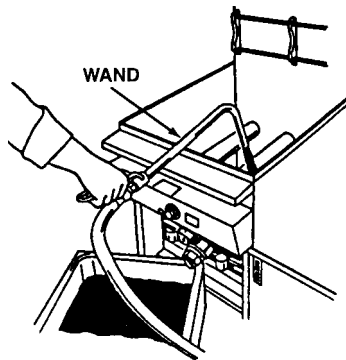

Figure 2.4: Fill fryer with filtered oil
4. Fill fryer with filtered oil (See Figure 2.4).